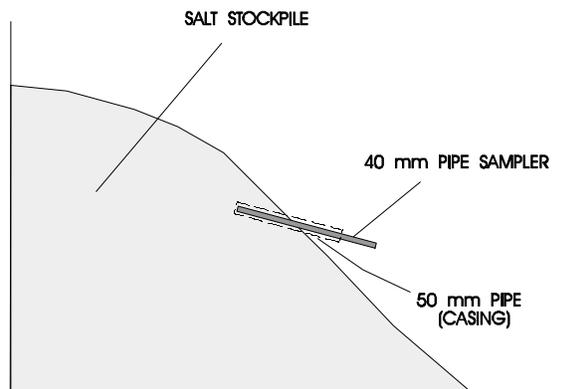

FIGURE 1
1. Auger the 40 mm pipe into the stockpile face. Ensure the pipe is at a slight incline to hold the salt. This shown in Figure 1.